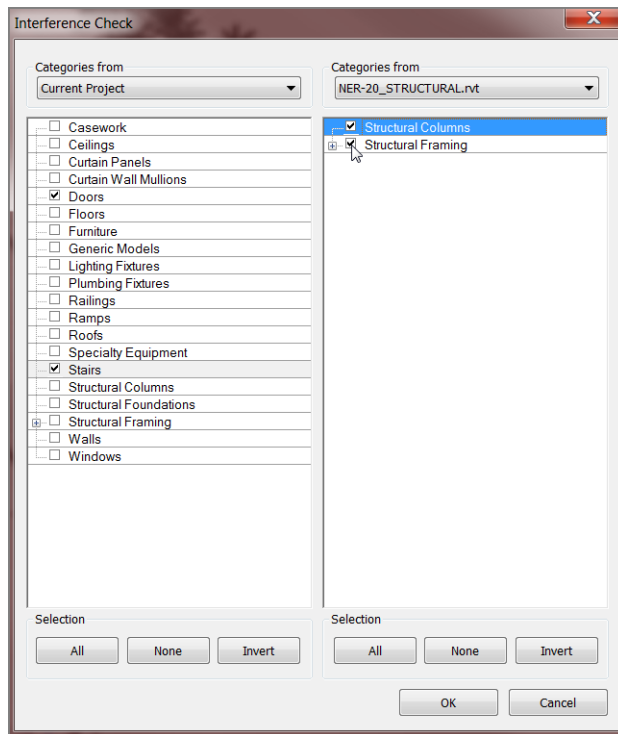

FIGURE 20.16: Selecting the components to find in the interference report
3. Select Doors and Stairs from the list, as shown in Figure 20.16.
5. Select Structural Framing and Structural Columns (see Figure 20.16).